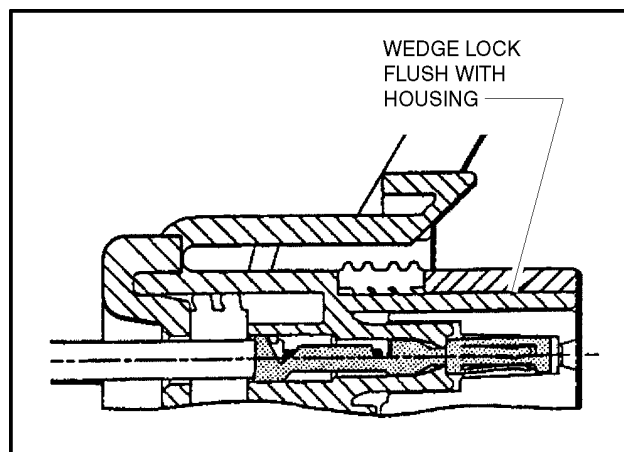

Figure 6-9. Connector Assembly Figure 4
4. Slide the wedge lock into the housing until it is flush with the housing (See Figure 6-9.)